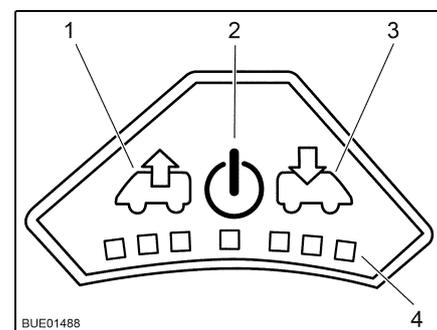

Fig. 120 Control panel for fan
Switching on: ■ Press the On/Off button (Fig. 120,2). The fan runs in comfort mode (venting at slowest fan speed).
Venting: ■ To increase the fan speed: Press the Vent button (Fig. 120,1). The fan speed in the venting direction increases by one level. LEDs (Fig. 120,4) show the operating levels.
■ To lower the fan speed: Press the Aerate button (Fig. 120,3). The fan speed decreases by one level.
Aerating: ■ To increase the fan speed: Press the Aerate button (Fig. 120,3). The fan speed in the aerating direction increases by one step. LEDs (Fig. 120,4) show the operating levels.
■ To lower the fan speed: Press the Vent button (Fig. 120,1). The fan speed decreases by one level.
Switching off: ■ Press the On/Off button (Fig. 120,2). The fan stops, the LEDs go out.